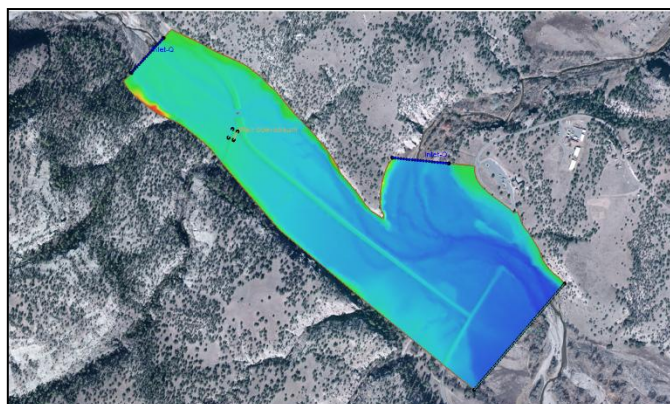

Figure 1 Gila_Flow.sms project
4. Click **Open** to import the project file and close the *Open* dialog. The Graphics Window should appear similar to Figure 1.